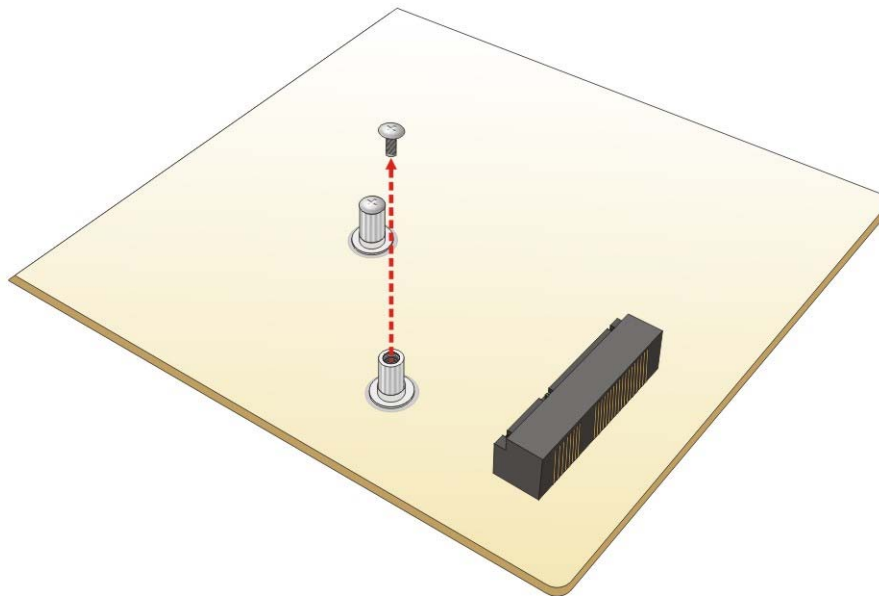

Figure 4-11: Removing the Retention Screw
- Step 2:** **Remove the retention screw.** Remove the retention screw as shown in **Figure 4-11**.